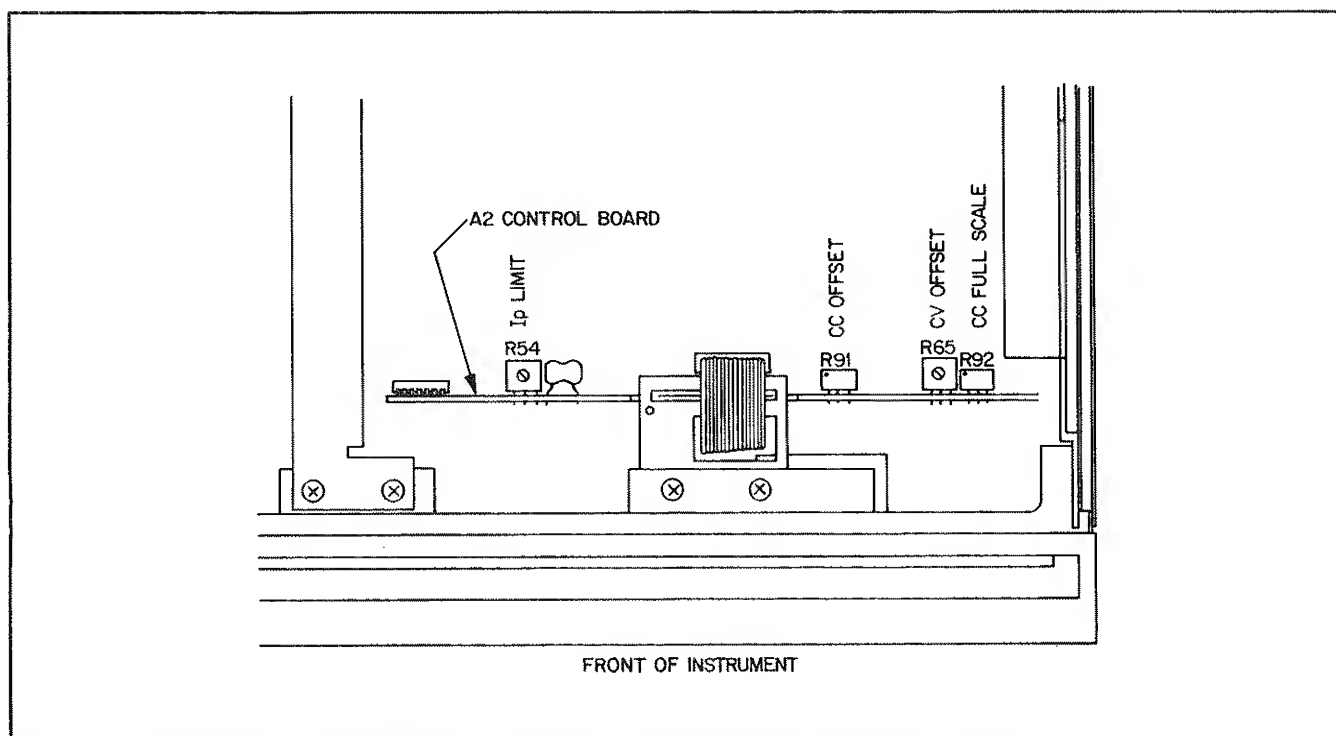

Figure 5-51. A2 Control Board Calibration Potentiometers
- Figure 5-51 shows the location of potentiometers used for service calibration on the A2 control board.